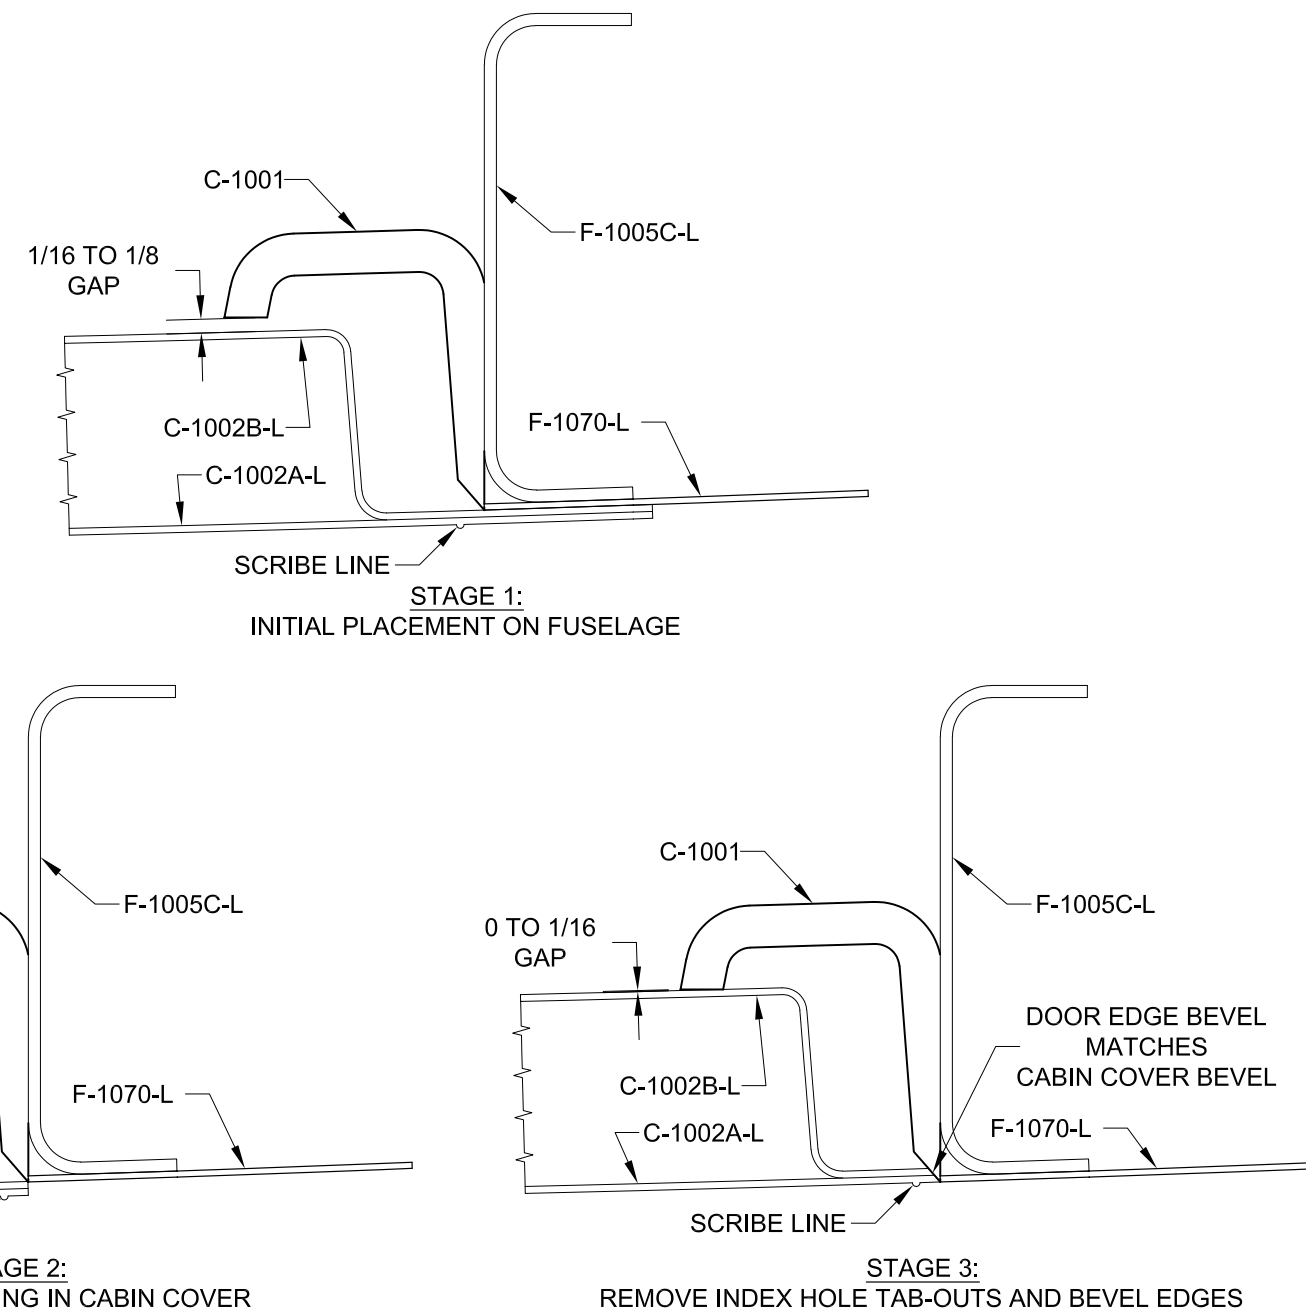

FIGURE 1: PROGRESSION OF DOOR TRIM AND FIT
Step 1: Using the open hole reference lines (or hole finder) drill #40 through the C-1002A-L Door Outer Shell/C-1002B-L Door Inner Shell into the open rivet holes in the fuselage. See Page 45-03, Figure 1. Install a cleco in each hole as it is drilled. If any mismatch occurs, the hole in the door inner/outer shells should be elongated rather than the hole in the fuselage. The clecos are used to hold the door inner/outer shells tightly to the side of the fuselage.